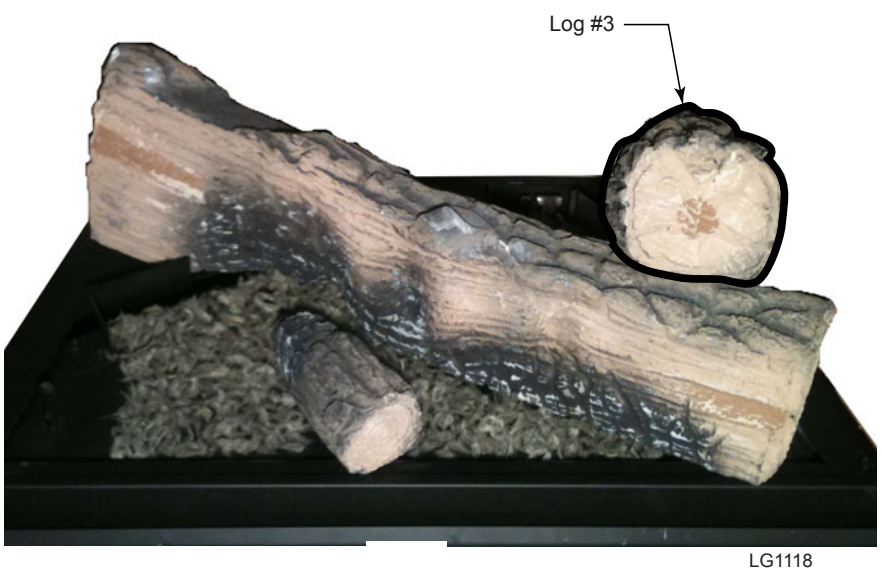

Figure 18
- 5. Position log #3 so that it is resting on log #2. *Figure 18*